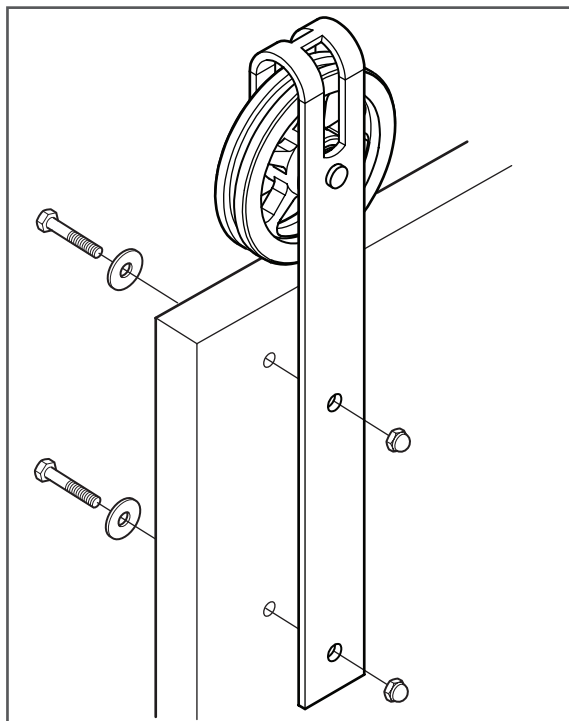

Figure 6
7. Install the hangers to the front of the door using hex bolts, washers, and acorn nuts (provided) (figure 6).